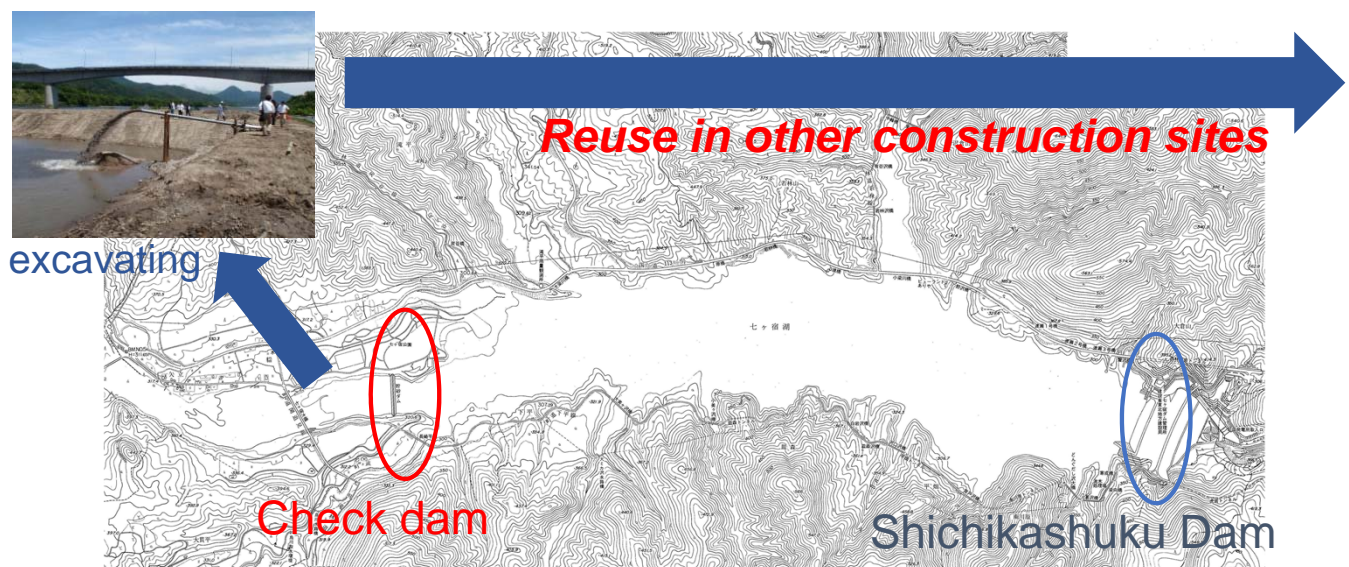

Fig.5-2 Shichikashuku Dam
- Shichikashuku Dam in Miyagi Pref.(Fig.5-2)